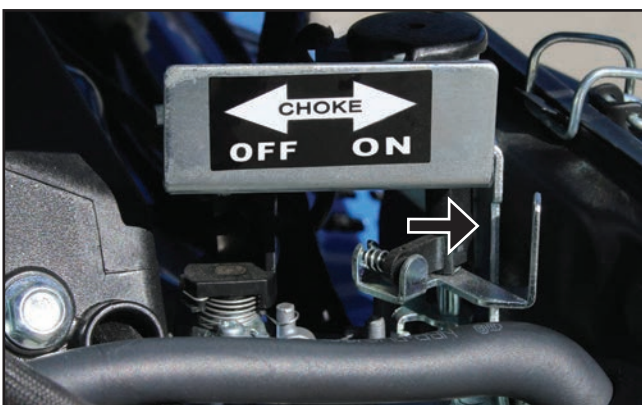

Figure 17 – Choke Lever in the ON Position
3. Move the choke lever to the **ON** position (see Figure 17) if starting a cold engine. To restart a warm engine, leave the choke lever in the **OFF** position.